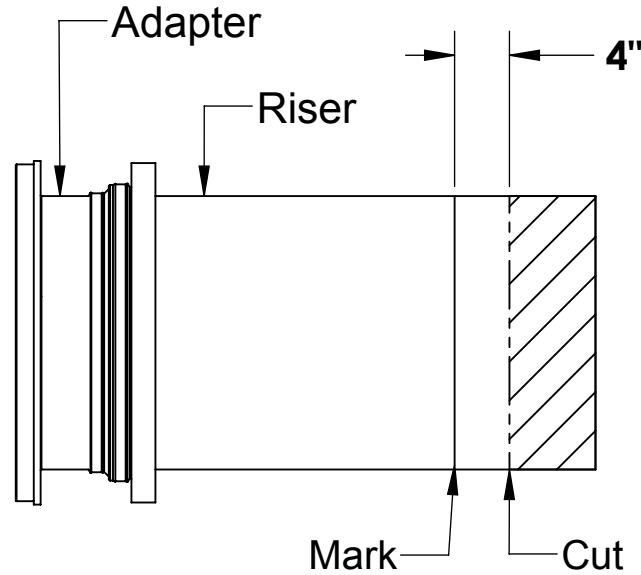

Figure 3
- Whether the riser needs to be cut or not, make another mark with the silver marker on the sidewall of the riser a distance of 4 INCHES the edge just cut. If you did not make a cut (meaning your riser height + dimension from step 5 line was beyond the bottom edge of your riser), still mark the sidewall of the riser 4 INCHES above where your riser height + dimension from step 5 line would have been. DO NOT cut this new line. Once the riser is installed into the main unit, this new line will end up at the top of the gasket and will aid in re-assembly. See Figure 3.